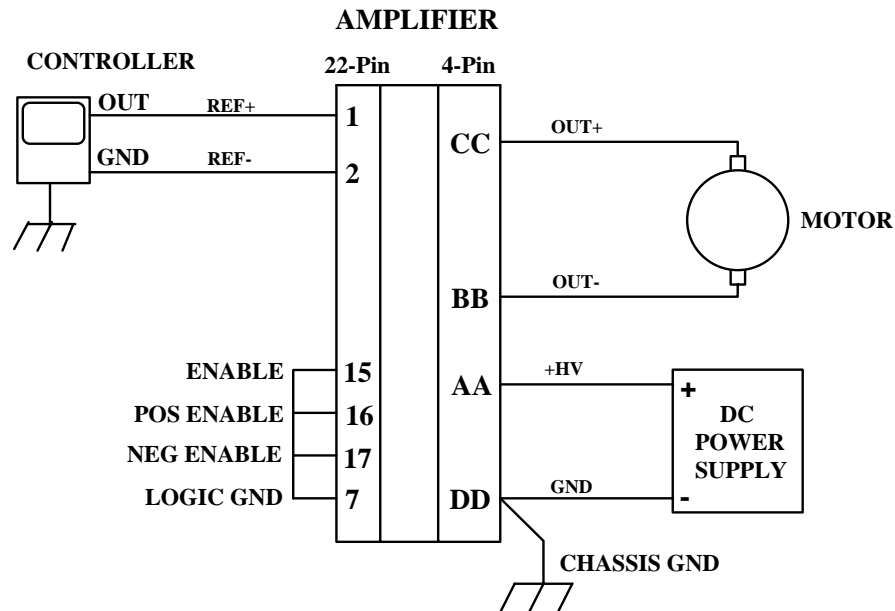

Fig. 1
Figure 1 shows the frequency response of the servo preamplifier set for FLAT GAIN as shipped from the factory; the response is 3dB down at 14kHz. This flat response configuration (sometimes called 'current mode') is used when
operating with controllers that perform the control loop compensation. If R5 and R7 are changed to 499k ohms and 10m ohms respectively (as shown on the functional diagram) then the servo preamplifier response is called 'velocity loop compensation' (shown in Figure 1). The gain plot (Figure 1) is shown with the FEEDBACK potentiometer in the full CW position. Turning the potentiometer CCW raises the gain plot an additional 21dB. To obtain less gain than with the FEEDBACK potentiometer set fully clockwise (CW), change the values of R5, R7, C4 and C6 as shown in Table 2.